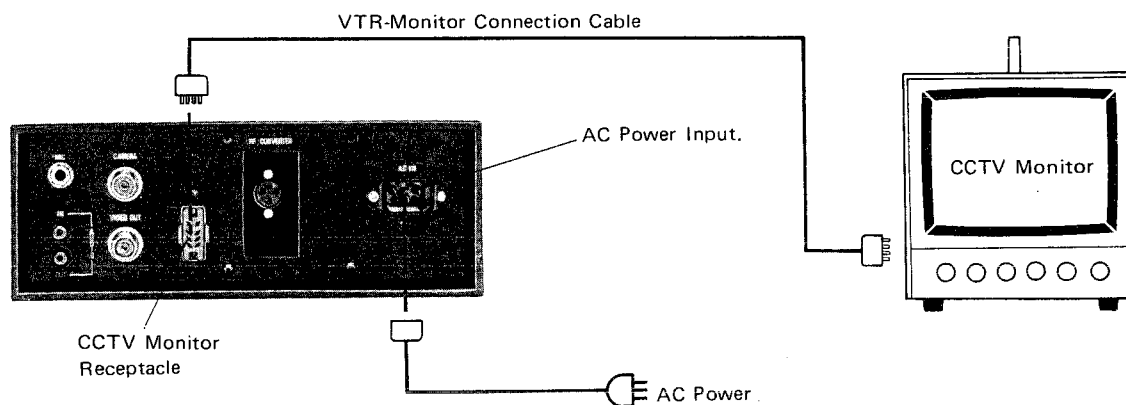

Fig. 10
1. Connect as shown in Fig. 10 the recorder and the NATIONAL CCTV monitor with VHF/UHF tuners using the attached VTR-Monitor connection cable.
- * The monitor may be supplied with unswitched AC power from the AC Outlet (19) on the jack panel of the recorder.